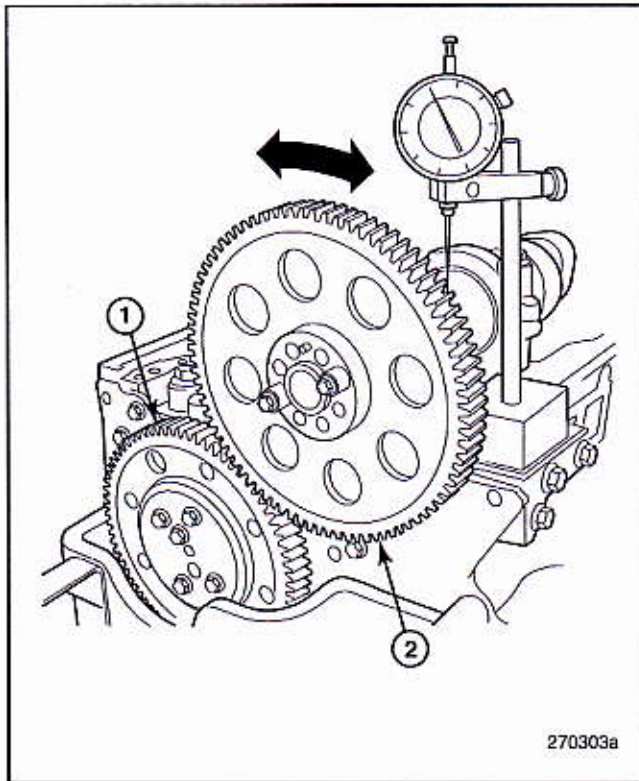

Figure 452 — Camshaft Gear Backlash Measurement
12. Install a dial gauge against a tooth on the camshaft gear (Figure 452). With the idler gear locked in position, rotate the camshaft gear back and forth to measure backlash. The backlash reading should be within specification.